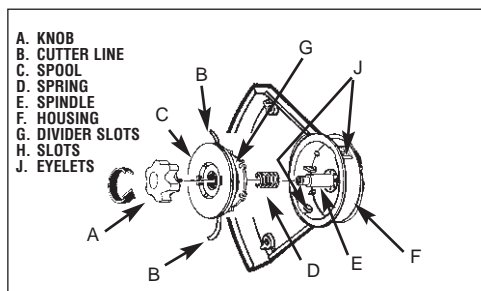
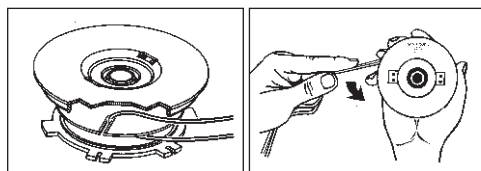

Fig. 15A
Fig. 15B
1. Turn the nut (A) **CLOCKWISE** and remove it (Fig. 15A).
2. Remove the spool (C), and spring (D) from spindle (E).
4. Double a 32' (9.8m) length of .095 or .105" (.24 or .27cm) cutter line. Place the looped center in one of the slots (G) of the spool divider (Fig. 15B).